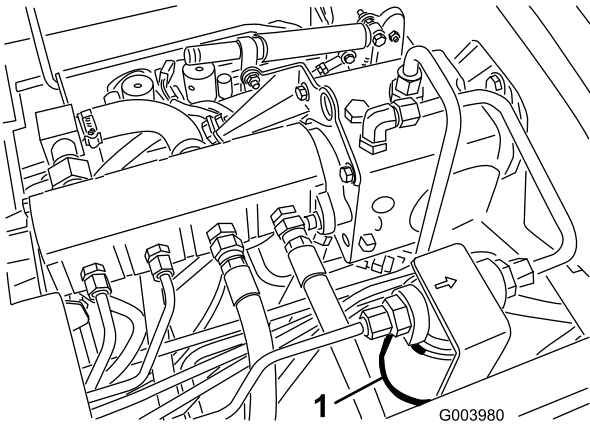
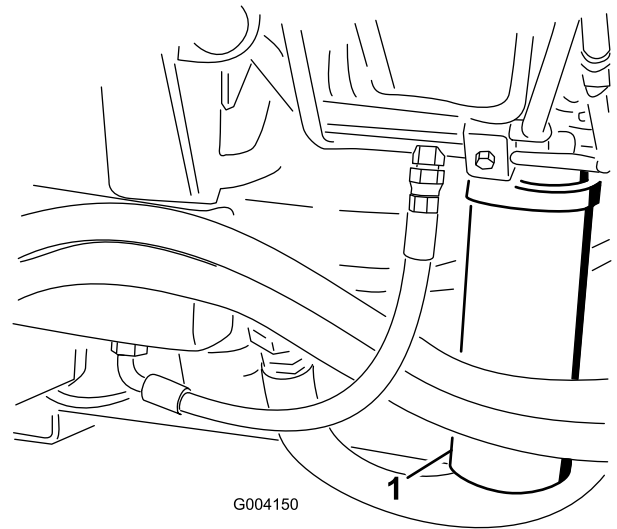

Figure 61
Figure 62
2. Clean the area around the filter mounting area and place a drain pan under filter (Figure 61) and (Figure 62).